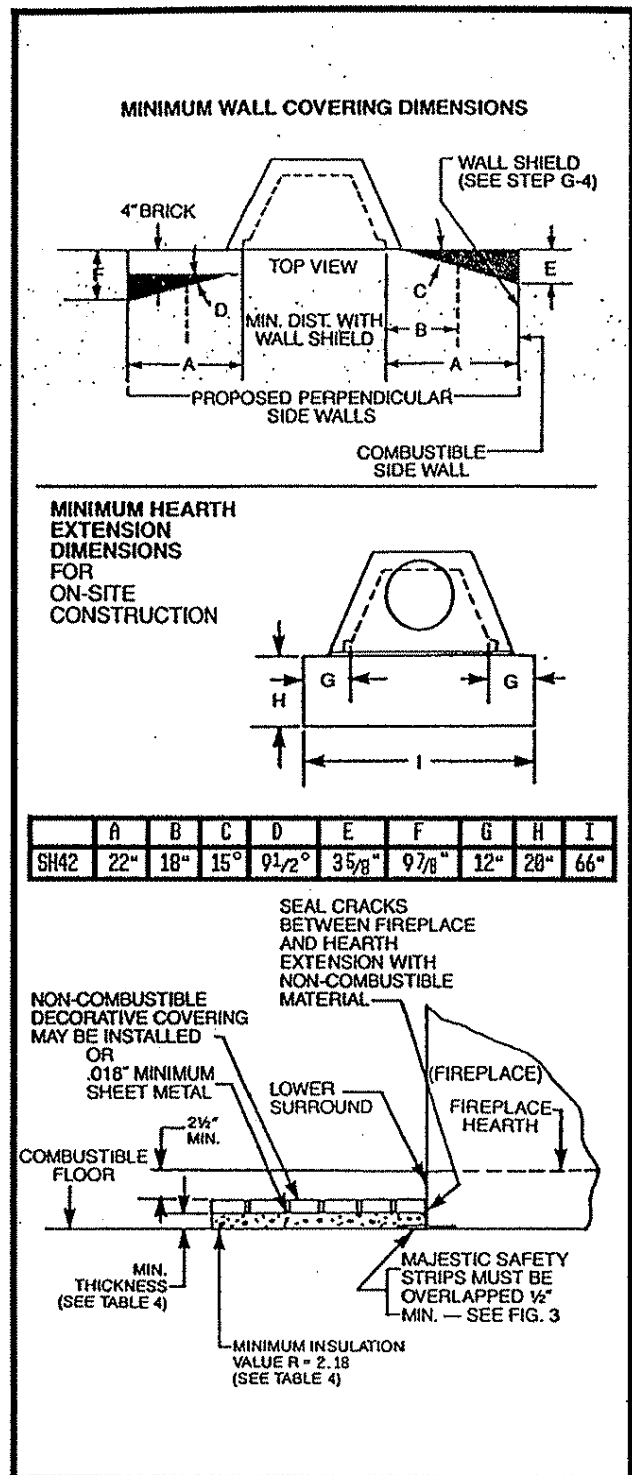

Fig. 23. Protection of adjacent combustible side walls and hearth extension dimensions.
A hearth extension is required to protect combustible floor construction in front of the fireplace. See Fig. 23 for minimum dimensions and mounting detail.
The hearth extension described in Fig. 23 must be constructed of a rigid insulation with a minimum (total)  $R_T$  value of 2.18. (See Table 4 for examples.) The overall height (above combustible floor), depth and width must be as indicated, with it centered to the fireplace opening. (See Fig. 23.)
The top of the insulation must be covered with a non-combustible decorative covering or a piece of .018" minimum sheet metal, to protect the hearth extension material. (See Fig. 23.)
Secure the hearth extension to the floor to prevent shifting, using trim molding or other similar means at the three (3) outer edges. Seal the crack between the fireplace hearth and the hearth extension with a non-combustible material. (See Figs. 23, 24 and 25.)
**WARNING: HEARTH EXTENSION MUST BE INSTALLED IN ACCORDANCE WITH FIGS. 23, 24 AND 25.**